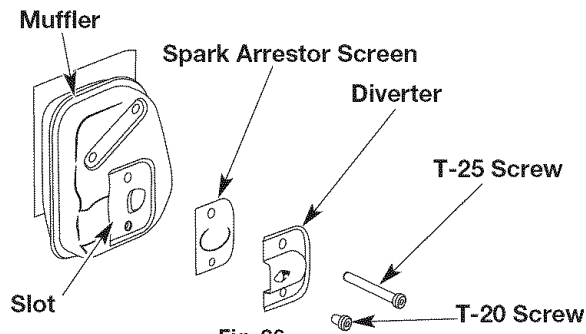

Fig. 36
2. With a flat blade screwdriver or Torx T-20 bit and a T-25 bit, remove the screws attaching the spark arrester diverter to the muffler (Fig. 36).